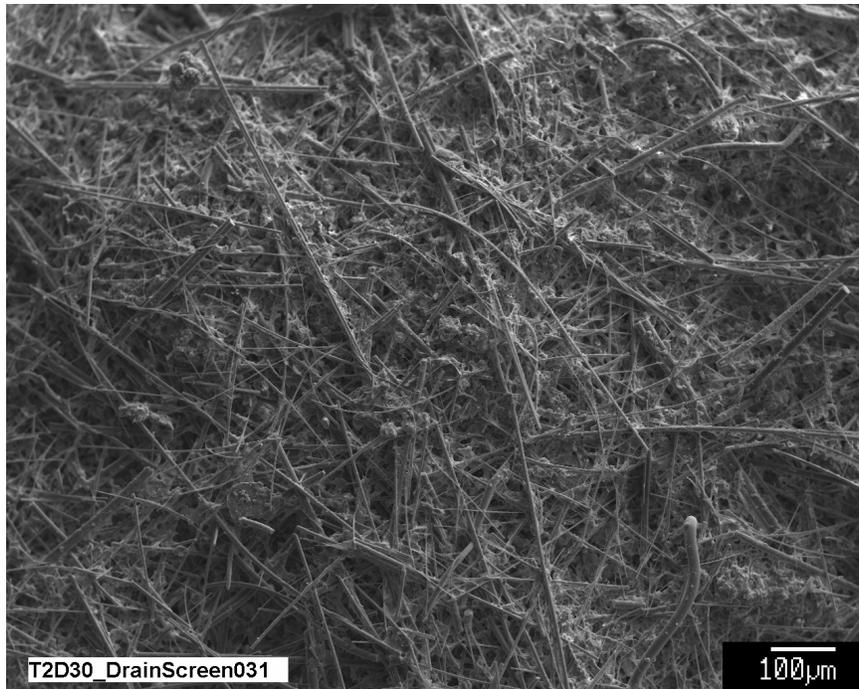

Figure D3-3. SEM image for a Test-2 Day-30 fiberglass sample on the drain collar next to the drain screen (T2D30_DrainScreen031).
- Figure D3-3. SEM image for a Test-2 Day-30 fiberglass sample on the drain collar next to the drain screen (T2D30_DrainScreen031). D3-6